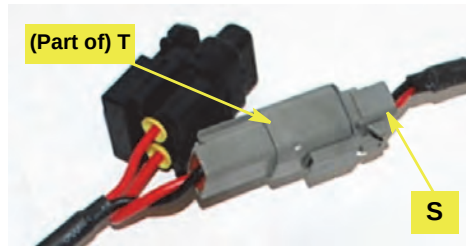

Figure 7c: Power cable to junction box cable
- d. Connect the gray connector of the power cable **S** (routed into the cab at step 7a) to the gray cable from the junction box **T** (Figure 7c).